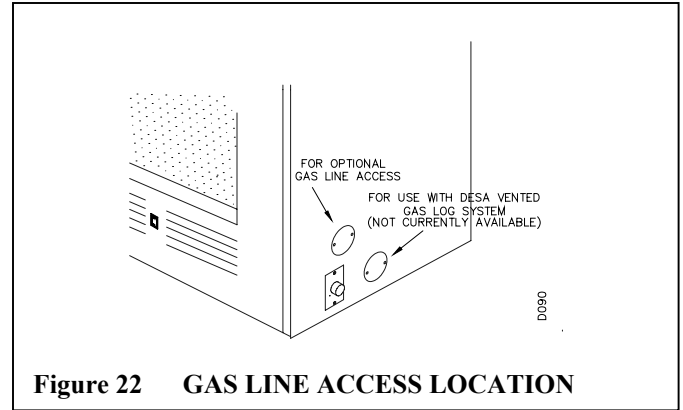

Figure 22 GAS LINE ACCESS LOCATION
STEP 2: Remove gas line cover plate on either side of fireplace (see figure 22) and pull out insulation (if any) from gas line conduit sleeve. Save insulation for reuse.